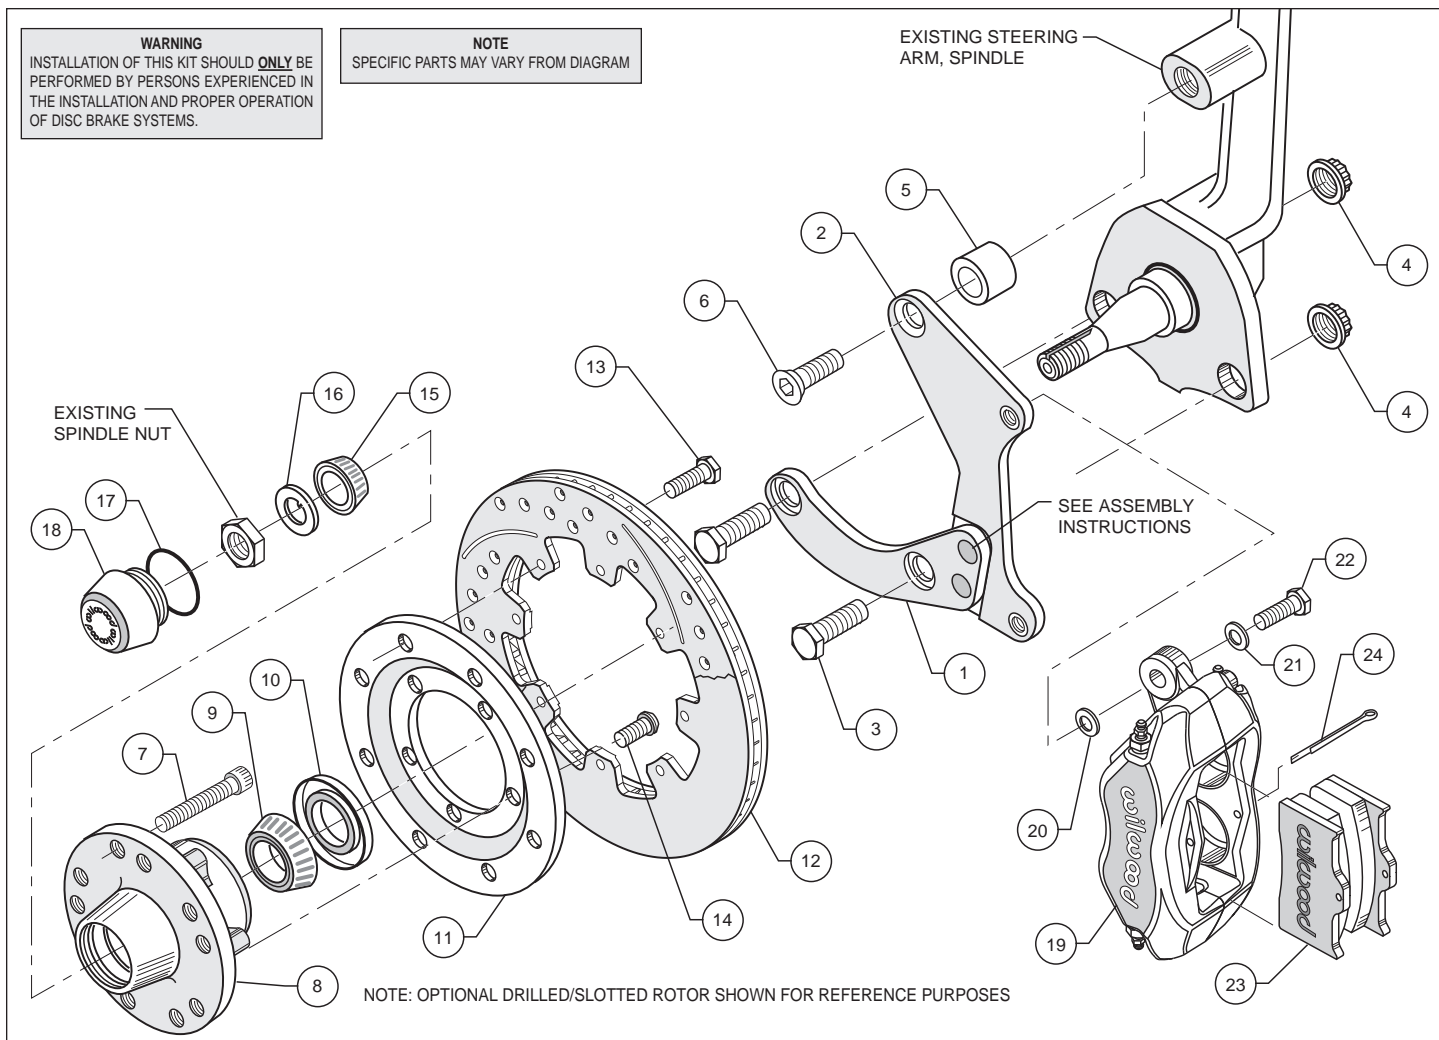

Figure 1. Typical Installation Configuration
- Mount the adapter/rotor assembly (11/12) to the hub (8) using bolts (14) (finger tight), as shown in Figure 1. Using an alternating sequence, remove bolts one at a time, apply red *Loctite*® 271 to the threads, and torque to 55 ft-lb.
- Pack the small outer bearing cone (15) with high temperature disc brake bearing grease. Lightly coat the spindle bearing surfaces with bearing grease. Slide the hub/rotor assembly (8 and 12) with outer bearing cone (15) onto the spindle. Secure using spindle washer (16), existing adjusting nut and nut locking device.